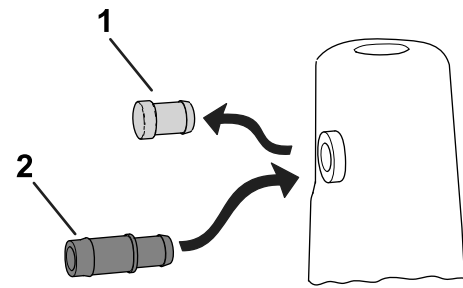

Figure 4
12. Insert the spout into the rubber grommet (Figure 4).
11. Remove the plug from the hydraulic tank (if equipped); refer to Figure 4.